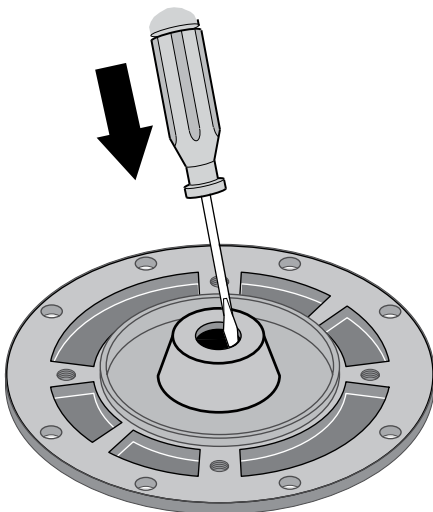

Figure 17: Tap Out Seal
5. Place seal plate half face down on flat surface and tap out stationary half of seal (see Figure 17).